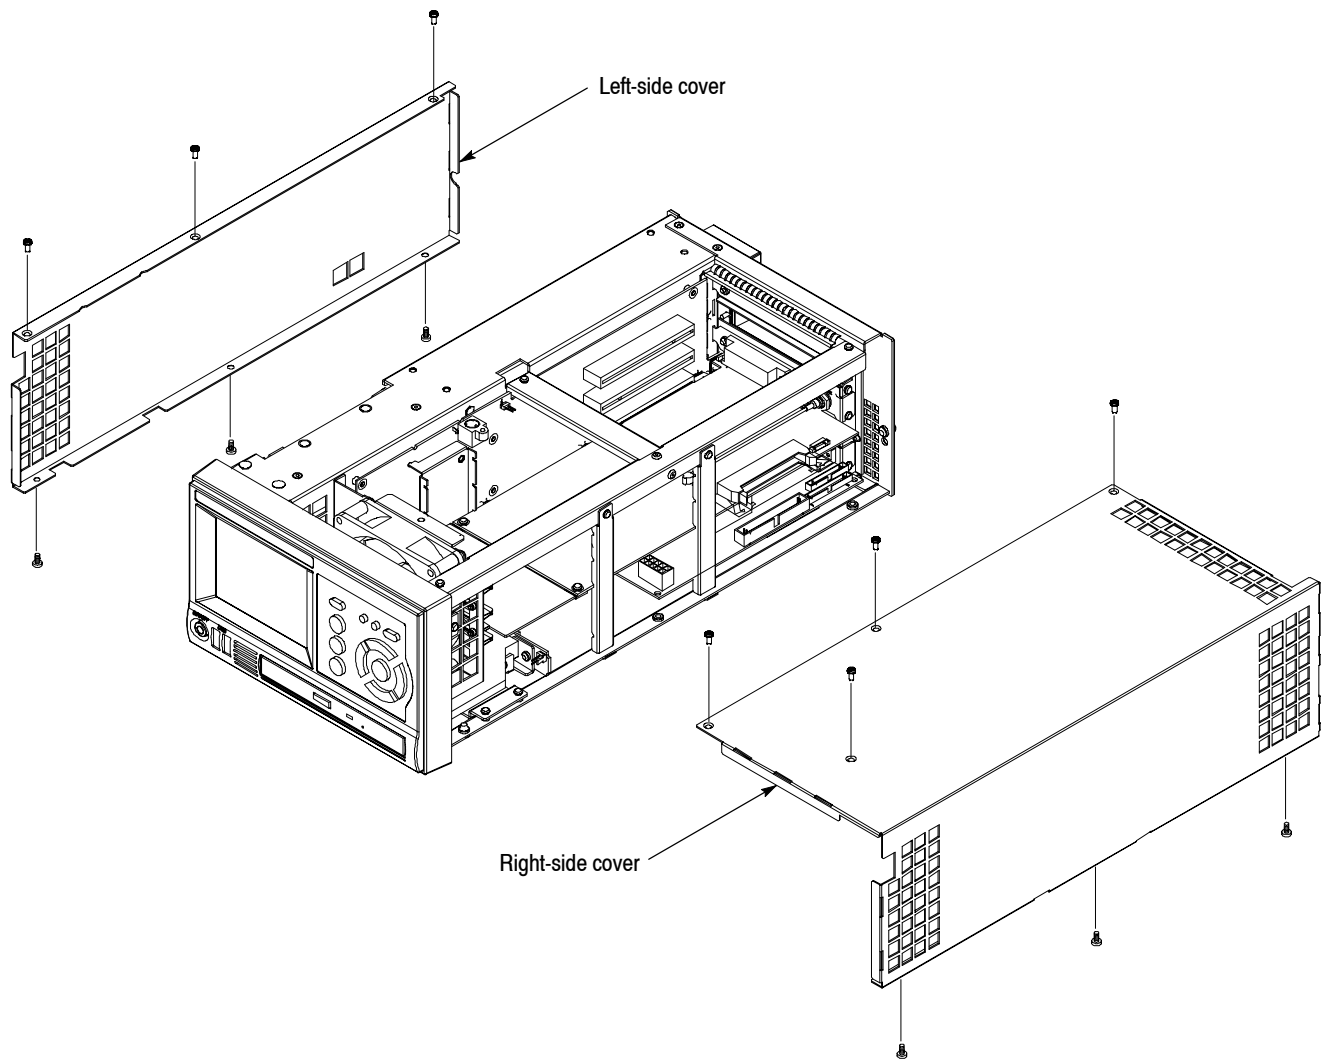

Figure 2: Removing the right-side and left-side covers
2. Use a screwdriver with a T-10 Torx tip to remove the seven screws securing the right-side cover to the top and bottom of the chassis. See Figure 2.
5. Use a screwdriver with a T-10 Torx tip to remove the six screws securing the left-side cover to the top and bottom of the chassis. See Figure 2.